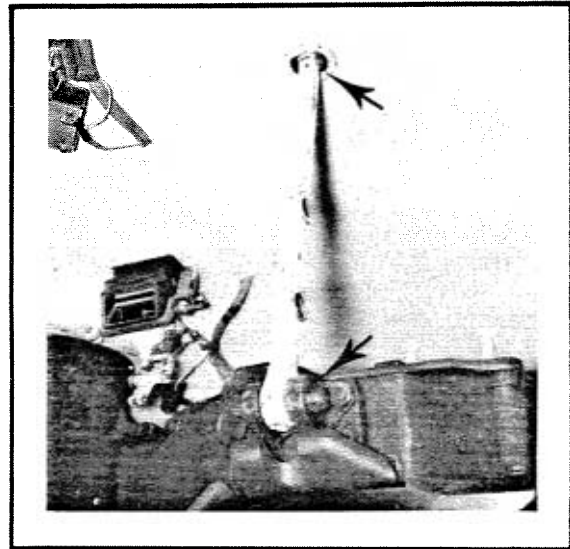

FIG. 3-50. TRAVEL LOCK MOUNTED
h. Travel Lock (Fig. 3-50). The main gun travel lock in the T-62 series tank is located inside the turret. A bar is hung from the turret roof and fixed by a pin at the top of the breech. There are three positions in which the T-62 main gun can be locked.